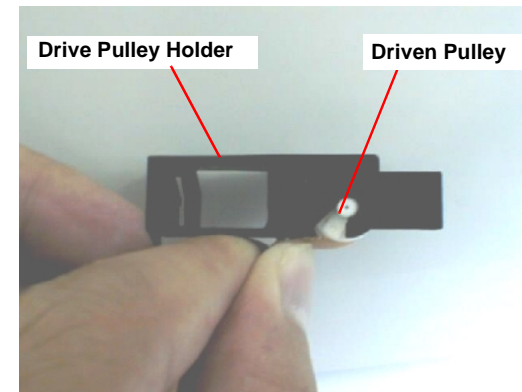

Figure 4-45. Removing the Driven Pulley
- 6) Remove the Driven Pulley from the Driven Pulley Holder together with the timing belt. Refer to Figure 4-45.